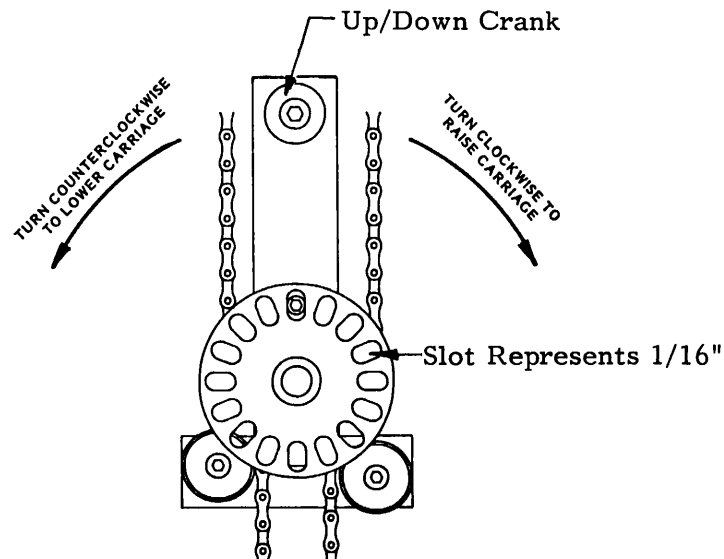

FIGURE 4
The cutting head is raised and lowered by the hand crank on the front of the carriage assembly. (See Figure 4.) There are 16 holes in the face plate of the up/down crank assembly. Each hole represents an adjustment in the blade height of 1/16 of an inch. One full turn of the crank is one (1) inch.